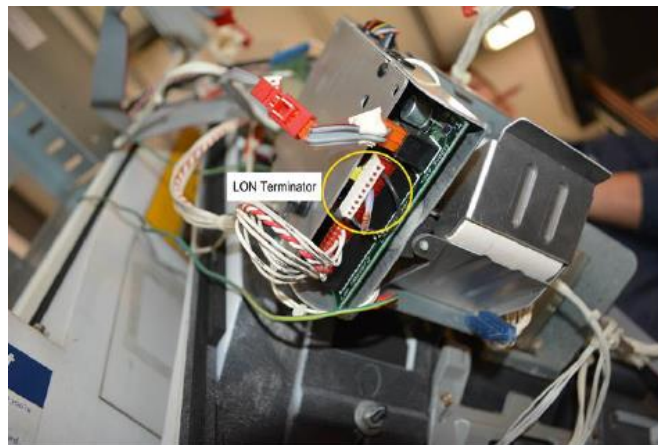

Fig 2.3b – LON terminator from the printer
- If uninstalling from a 500 dispenser with a LON cable harness, remove the LON terminator from the Printer (if present) and retain (Fig 2.3b).